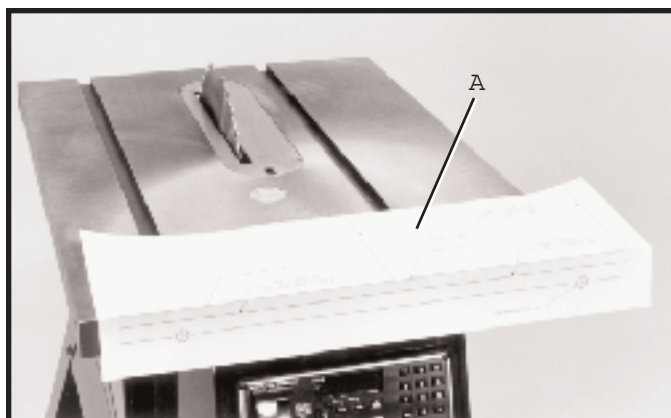

Fig. 18
5. Fold paper template (A) along the line marked table top and place it on the saw table with the fold along the top front edge of the table, as shown in Fig. 18.